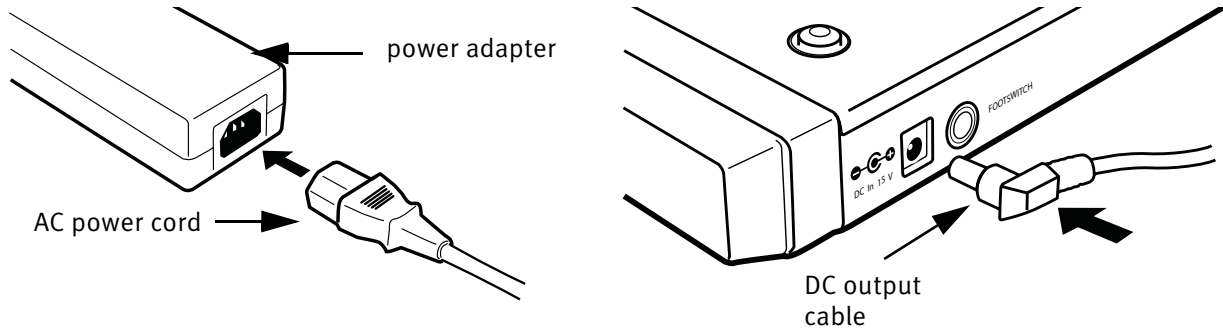

Figure 2-7 Connecting the power adapter
3. Plug one end of the AC power cord into the power adapter (Figure 2-7 left) and the other into a power outlet.
4. Connect the DC output cable from the power adapter to **DC In** on the left side of the rear panel (Figure 2-7 right).